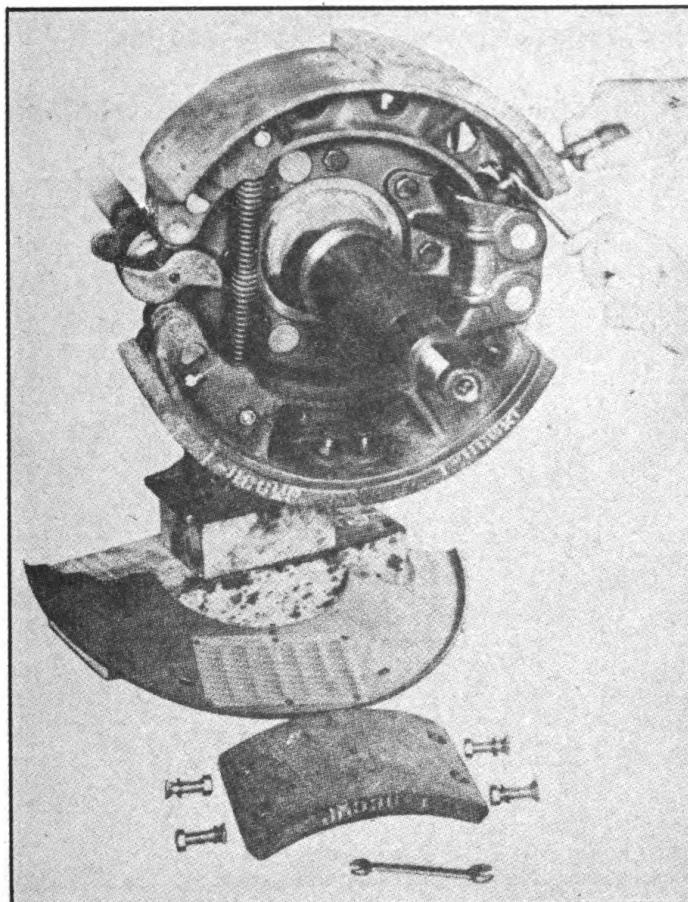

FIGURE 18, RELINING BRAKES
- (1) Remove wheel, hub and drum as an assembly when relining the brakes on the outer wheels. (See instructions for removing hub assembly in Wheels, Hubs and Bearings section.)
- (2) In order to reline brakes on inner wheels it will be necessary to remove the tires, wheel assembly, and then the hub.
- (3) Remove dust shields.
- (4) Remove bolts holding brake block to shoes (Figures 18).
- (5) Loosen the anchor pin nuts and lock nuts holding anchor pins.
- (6) Move anchor pins to check ease of operation.
- (7) CAUTION: It is very important that anchor pins move freely. A binding anchor pin will interfere when making major brake adjustment. Major brake adjustment is necessary after brake shoes have been relined.
- (8) Remove all rust and dirt from brake shoes, using a putty knife or an old file.
- (9) Place brake blocks on shoes and tighten, using bolts and lockwashers.
- (10) NOTE: Brake blocks are interchangeable with any brake shoe throughout trailer.
- (11) Place a film of grease over S-cam and install wheel and hub assembly.
- (12) Give brake a major adjustment. (Paragraph 5, this section.)